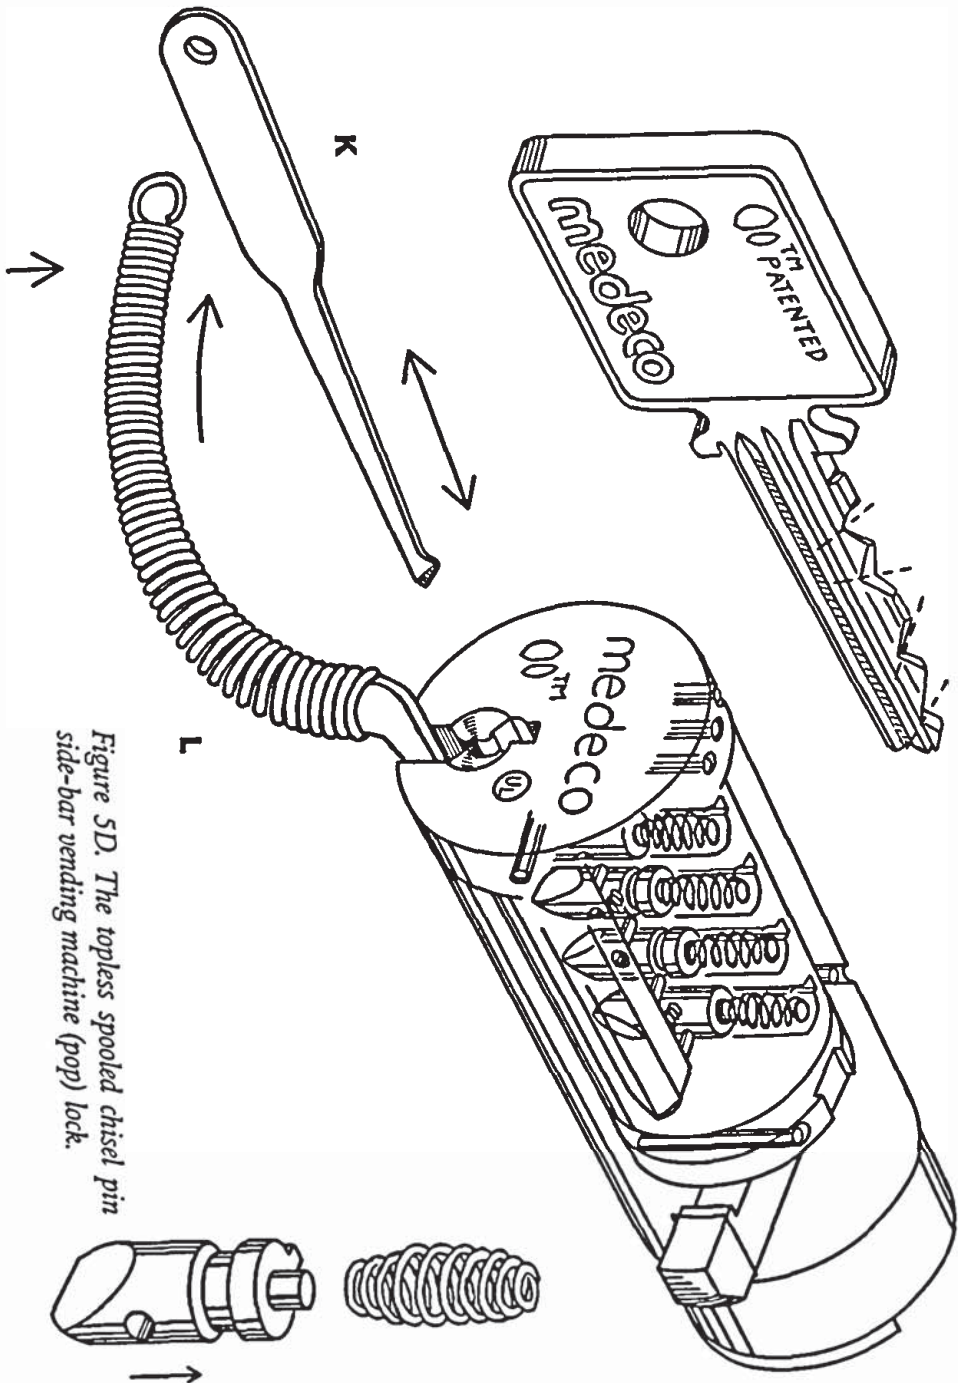

Figure 5D. The topless spooled chisel pin side-bar vending machine (pop) lock.
4. *Secrets of Lock Picking*, Paladin Press, p. 9, figure 5D. Further research on my part has revealed that this tool is no longer available in locksmith’s supply chains. Please see Chapter 1 for details in making this tool.